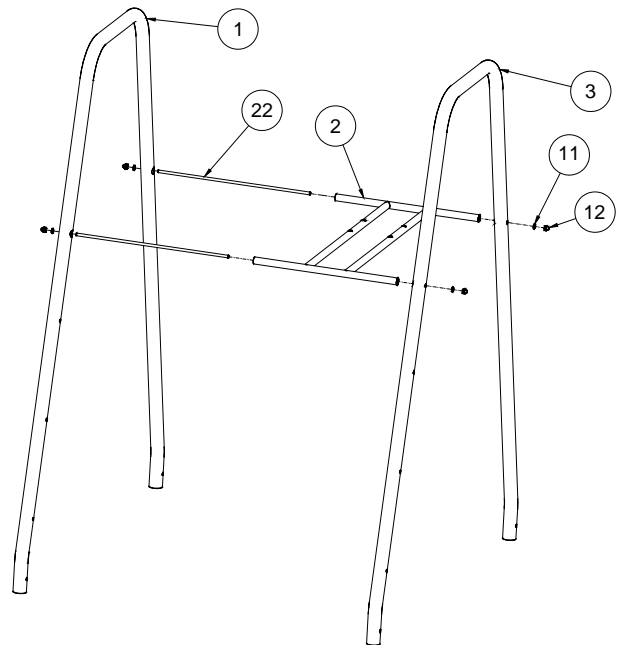

FIGURE 3
4. Place **3/8" Threaded Rod (item 22)** through **PLS-204 Frame Right (item 1)** two places as shown in **FIGURE 3**. Place **3/8" Lock Washer (item 11)** and **3/8" Acorn Nut (item 12)** as shown over the ends of the threaded rod. Place the **PLS-204 Footboard Support Assembly (item 2)** over the **3/8" Threaded Rod**. Place the Footboard Support into the 1" diameter holes on the right PLS-204 Frame making sure that the four 9/16" diameter holes in the Footboard Support are positioned closest to the back of the frames. Note: the front of the frames have holes for three stainless steel treads.
5. Place **PLS-204 Frame Left (item 3)** over the ends of the threaded rods and the Footboard Support Assembly. Place **3/8" Lock Washer (item 11)** and **3/8" Acorn Nut (item 12)** over the ends of the threaded rod protruding from PLS-204 Frame Left as shown in **FIGURE 3**. Do not tighten nuts at this time.